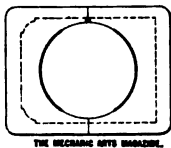

FIG. 5.
O. K. at both ends, we know there will be no cross-binding on the rod when all coupled up. By "standing fair" we mean that not only should the rod end, as a whole, be square with the pin, but that it should also have no twist in it. Thus, the two bearings should be parallel with each other as viewed both in plan and elevation, and also each be normal to the vertical axis of the rod. If this is so and the wristpin is horizontal and square with the line of stroke and the main crankpin is bored fair into the wheel hub and the pedestals are square with the line of stroke, we have condition (1) satisfied, so far as the main rod is concerned.
As regards (2): The main-rod brass should bear as shown by the dark lines in Fig. 5. If a brass is bored out while sweated together, the clearance at top and bottom must be filed, finishing off with the scraper. If reboring old brasses (as when a fresh pair of wheels with larger journals have been put in), insert a piece of sheet iron $\frac{1}{32}$ " thick in the joint and bore out to, say, $6\frac{1}{32}$ ". Then, when the iron is taken out and the brass keyed up, the diameter back and front will be 6" and top and bottom $6\frac{1}{32}$ ". This scheme can also be adopted in new work, the brasses being keyed up in the strap, or else clamped together if the rod has a forked end. The brass should in no case bear on the fillets.